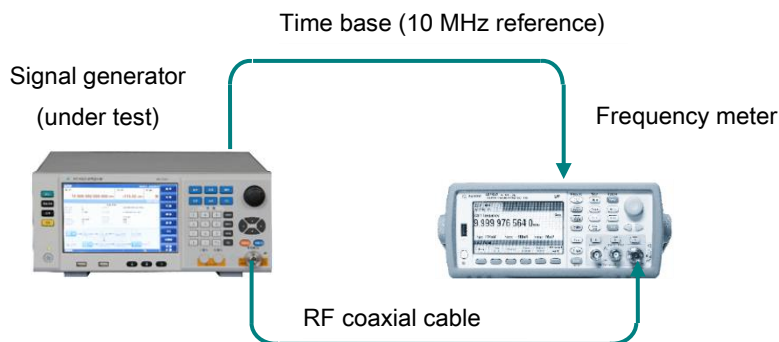

Fig. 8.2 Frequency resolution test
1) Connect equipment as shown in Figure 8.2, start up the instrument, and warm it up for at least 30 min.